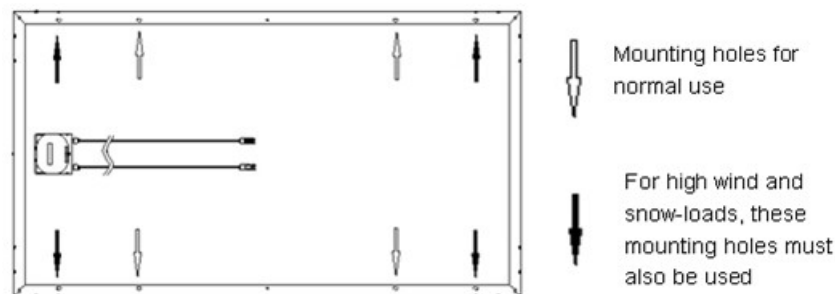

FIG 4 Mounting holes
- ✚ The frame of each module has 4 mounting holes used to secure. As shown in Figure 4, four mounting holes are needed in normal. Regarding to large modules of type 72, eight mounting holes are needed or in the condition of sustaining higher load.